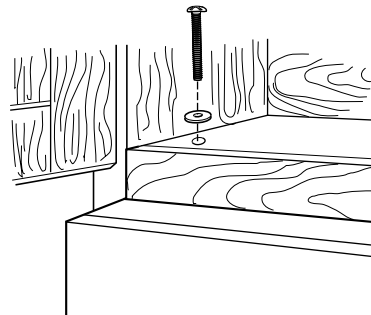

Figure 32
4. Place washers over two 1/4"x3" bolts. Then insert a bolt down through each hole in the upper cabinet bottom. Tighten the bolts until the gap between the upper cabinet and microwave oven is closed. See Figure 32.